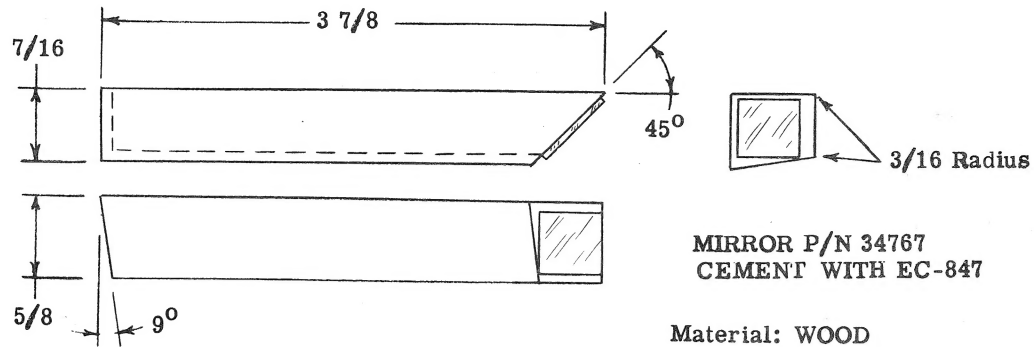

Figure 5 LAMP ALIGNING BLOCK
b. Lamp aligning block (figure 5), used to simplify focusing of Rangelite.